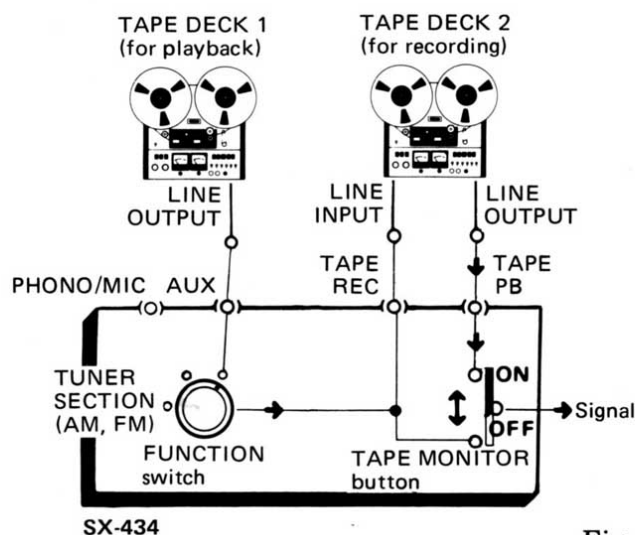

Fig. 12
1. Connect two tape decks as shown in Fig. 12.
3. Record the program in the way you want by operating the tape deck plugged into TAPE REC (PB) jacks. Operating the TAPE MONITOR button allows you to monitor a recording now in progress.